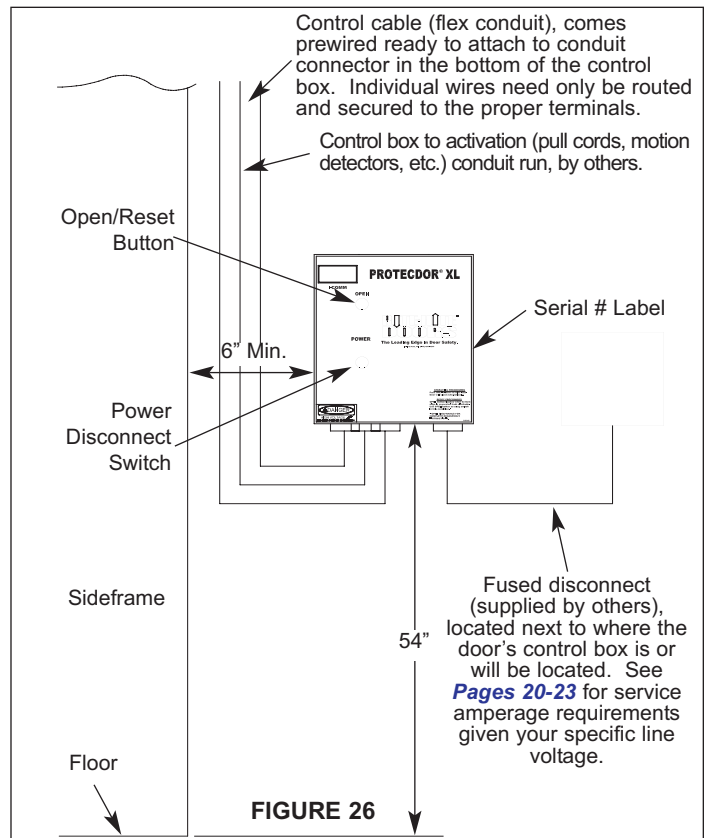

FIGURE 26
2. Mount the control box on the warm side of the wall adjacent to the door at approximately 54" above the floor level, *Figure 26*. Make sure that the sideframe doors can be fully opened without hitting the control box.
3. **All drilled holes, and conduit run into the control box must be through the bottom of the control box enclosure, *Figures 26 & 27*.**